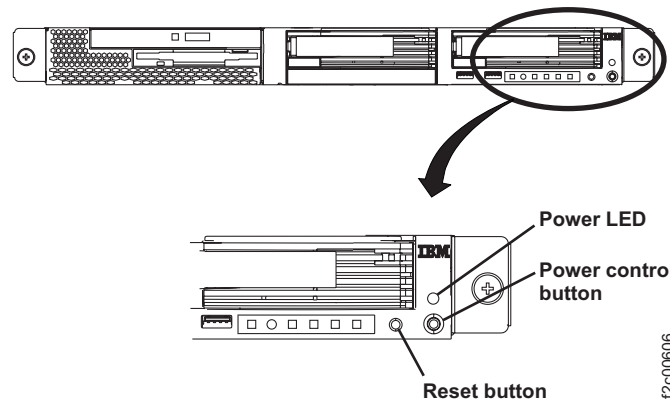
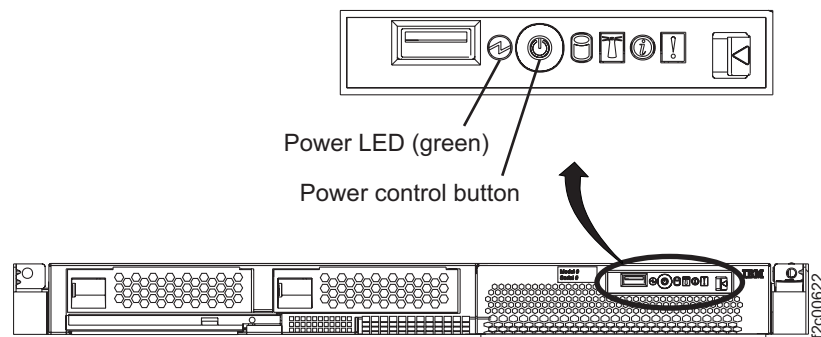

Figure 49. X335 management console server (front view)
Figure 50. X336 management console server (front view)
3. Observe the power LED on the front of the management console server. See Figure 49 (X335 server) or Figure 50 (X336 server).